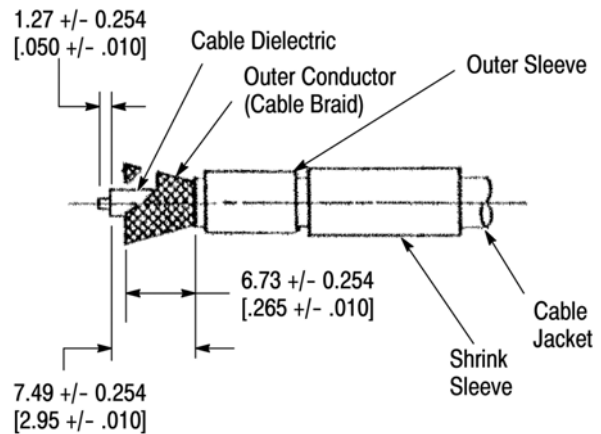

Figure 3
2.1. Preparing the Coaxial Cable End (Figure 3)
- Trim the outer conductor (cable braid) to the length shown in Figure 3.
- Trim the cable dielectric to the length shown in Figure 3.
- Flare the cable braid (see Figure 3).